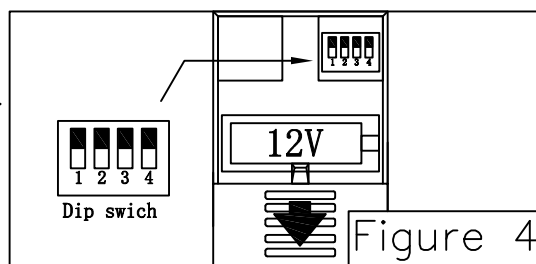

Figure 4
- To set the remote code same positions as the receiver with a small screwdriver or ball point pen (neither included), slide dip switches firmly up or down. (Figure 4)